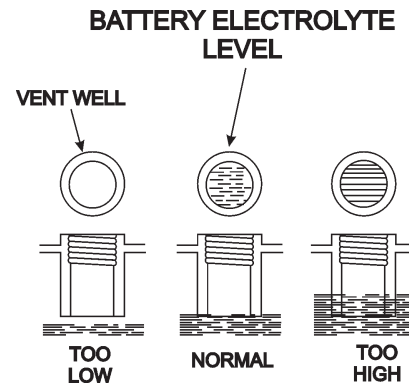

Figure 43. Battery Electrolyte Levels
- Check the battery regularly and make sure that each electrolyte level is to the bottom of the vent well (Figure 43). If necessary add only distilled water in a well-ventilated area.